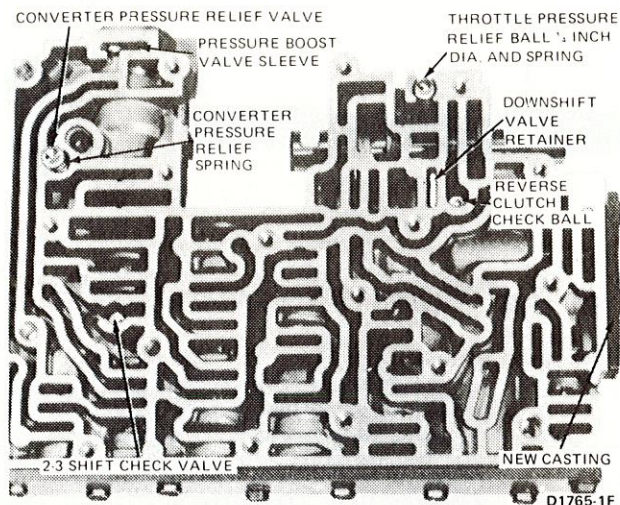

FIG. 23 Converter Pressure Relief Valve, Throttle Pressure Relief Valve, and 2-3 Shift Check Valve Locations
1. Place the downshift valve and spring in the valve body. Compress the spring and install the retainer from the underside of the body (Fig. 23).
2. Place the valve body on a clean surface with the passage side facing up. Place the converter relief valve spring in its bore (Fig. 23). Coat the converter pressure relief valve with petroleum jelly and place it on top of the spring. Place the 2-3 shift valve check ball in its cavity. Place the throttle pressure relief valve spring in its bore (Fig. 23). Coat the throttle pressure relief valve check ball with petroleum jelly and place it on top of the spring.